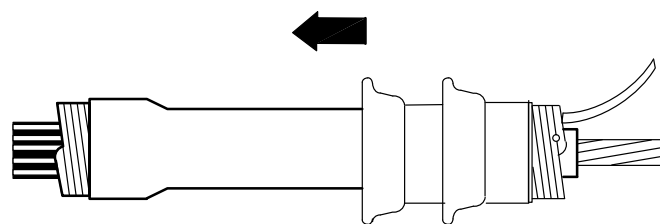

FIGURE 4
8. Remove the red support core from the terminator and slide the terminator onto the cable. The terminator must be positioned beyond the exposed conductor to allow installation of the lug or pin connector. See Figure 4.